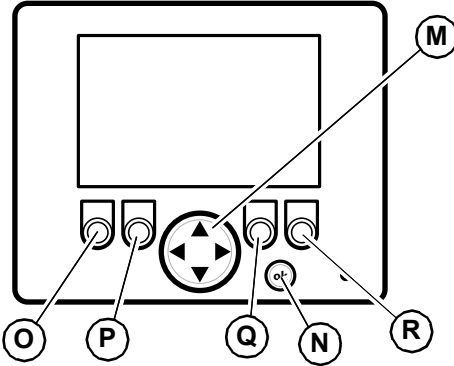

Figure 20 – Information Center Electronic Display
Quad Gauge Display Displays four different status parameters simultaneously. To change the displayed parameters, press and hold the ok button (N, Figure 20) until orange bar (T) displays. Press the left/right side of navigation rocker button (M, Figure 20) to select the parameter and press the top/bottom of navigation rocker button to change the selected parameter. Press the ok button again to dismiss orange bar (T).
Single Gauge Display Displays single real time operating parameters. Switch between parameters using the navigation button (M, Figure 20). Used for various functions, depending upon screen and context.
All Secondary Screens	Secondary screens are accessed by holding down the ok button (N, Figure 20) for 10 seconds while the Dual Gauge Display screen is displayed. Press the left/right side of navigation rocker button (M, Figure 20) to switch between secondary screens.
UNITS SAE METRIC 	Units Screen Press the top/bottom of navigation rocker button (M, Figure 20) to switch between SAE or metric units for values displayed in screens.
LANGUAGE ENGLISH SPANISH 	Language Screen The press the top/bottom of navigation rocker button (M, Figure 20) to switch between English or Spanish language for values displayed in screens.
0 of 0  DM1 SPN: 0 FMI: 0 OCI: 0 	DM1 Screen Displays engine, drive system, control, and safety system error code message information. Number of available messages is displayed at the top left of the screen (T). Use buttons (P and Q, Figure 20) to scroll through the messages. See "Engine Diagnostic Trouble Codes (DTC)" on page 175 for specific error code details.
0 of 0  DM2 SPN: 0 FMI: 0 OCI: 0 	DM2 Screen Continuation of error code message display along with DM1 Screen. Number of available messages is displayed at the top left of the screen (T). Use buttons (P and Q, Figure 20) to scroll through the messages. See "Engine Diagnostic Trouble Codes (DTC)" on page 175 for specific error code details.